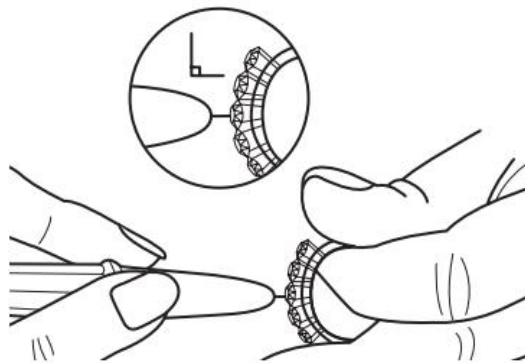

Figure 2.1
- Hold the jewelry or gemstone in one hand and the tester in the other (Figure 2.1)